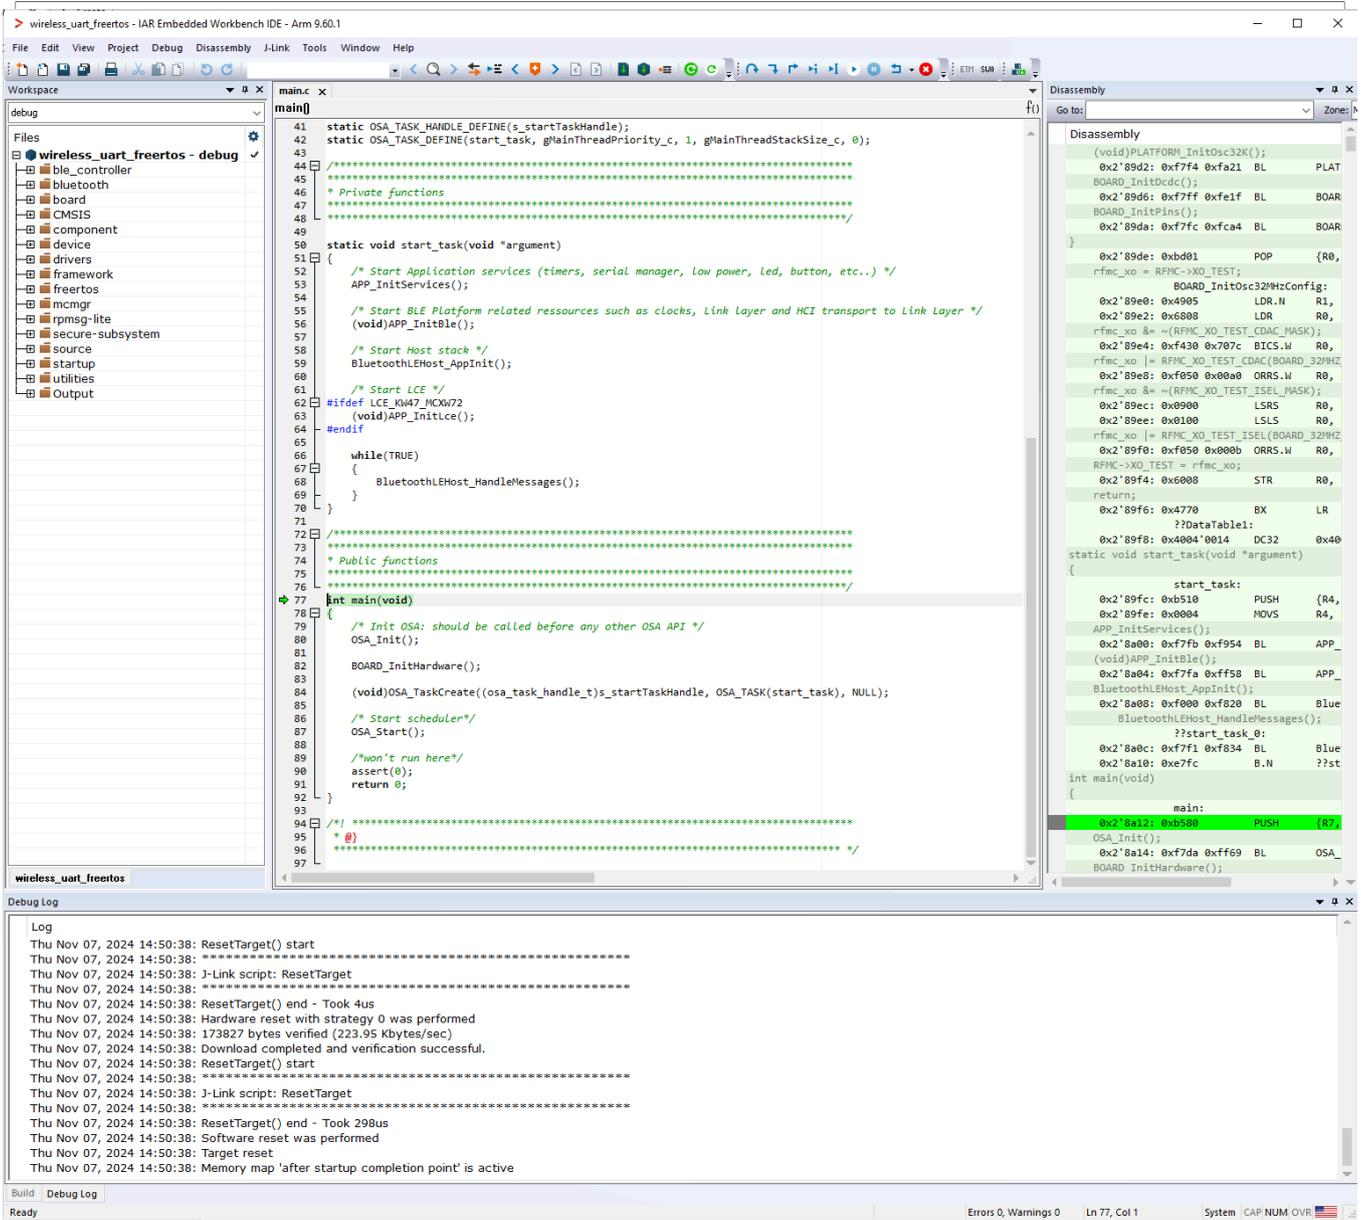

Figure 9. Running the code on IAR
7. Press **Go (F5)**. At this moment, the board starts running the application as shown in Figure 9.